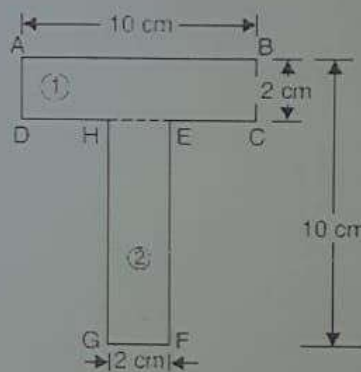

Figure 1.
- Q.1 Figure 1 shows a T-section of dimensions $10 \times 10 \times 2$ cm. Determine the moment of inertia of the section about the horizontal and vertical axes, passing through the center of gravity of the section. [5] CO1 BL